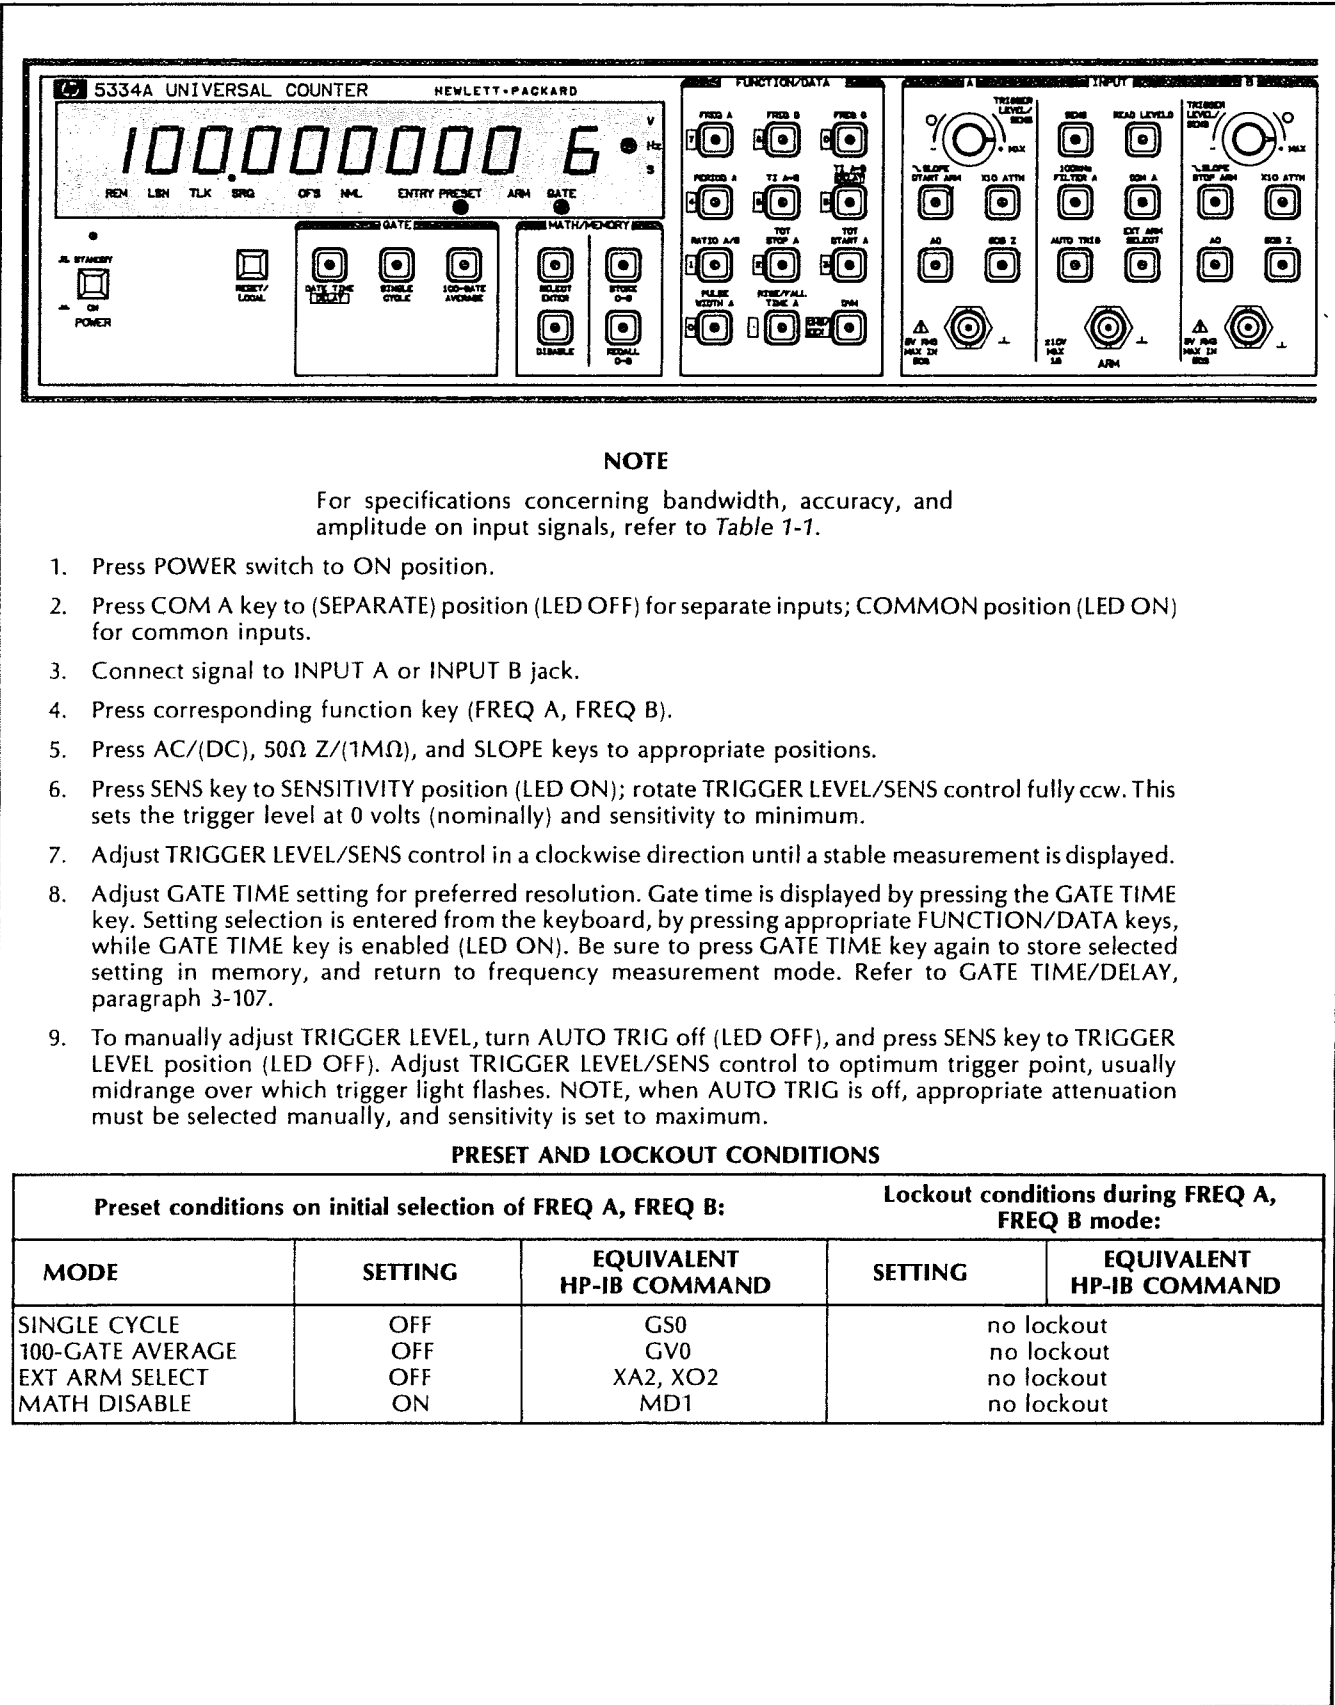

Figure 3-46. Frequency Measurements
- f. Detailed operating procedures for each measurement mode, *Figures 3-46 through 3-60*.